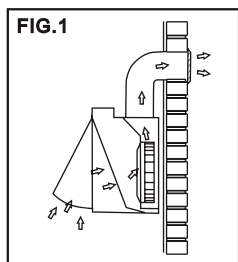

FIG.1
1. Extraction via ducting (fig.1)
The very best method of cleaning the kitchen of unwanted odours is by connecting the appliance to an exhaust duct and venting to the outside atmosphere via an exterior wall (suitable ducting kits may be purchased from Caple or the retailer where you purchased your extractor.) Ducting your extractor negates the need for charcoal filters. (Fig.1)